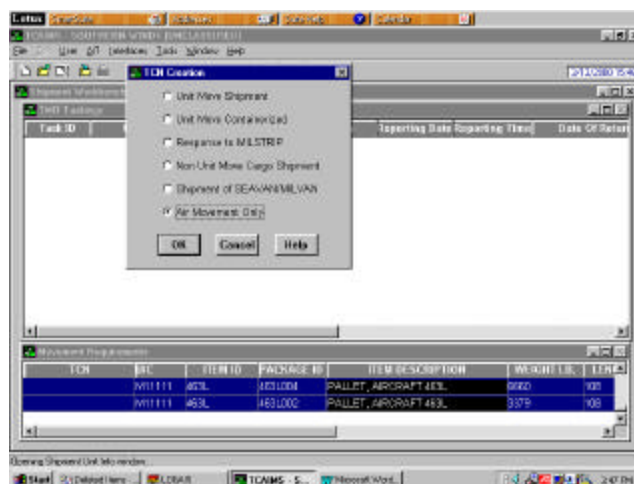

Figure 4
STEP 5. In the TCN Creation box, select **Air Movement Only** (see figure 4)